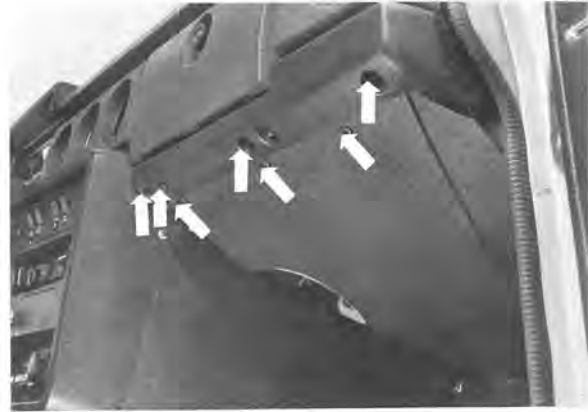

Fig. 8-59. Removing locking for turbine
9. Remove the turbine wheel locking with the help of two screwdrivers (Fig. 8-59), and remove the turbine.
7. Remove the turbine wheel locking with the help of two screwdrivers (Fig. 8-59) and remove the turbine.
22. Remove the central unit right, outer, end (Fig. 8-58), turbine wheel (Fig. 8-59) and the inner end.